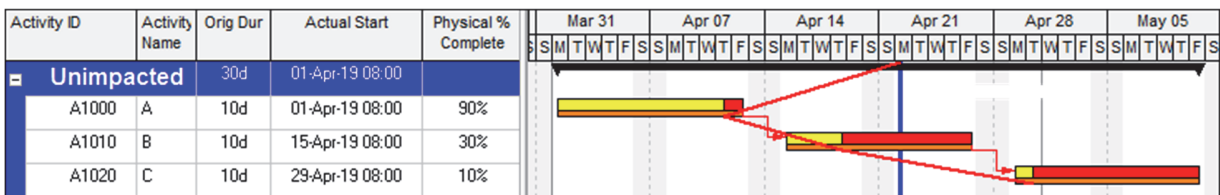

Figure 27 – P6 Un-impacted schedule with **Progress Lines**.
- When a P6 baseline is set and the baseline bar is displayed then the **Progress Lines** can be displayed, but they will not be displayed without a Baseline Bar also being displayed, as shown in Figure 27: